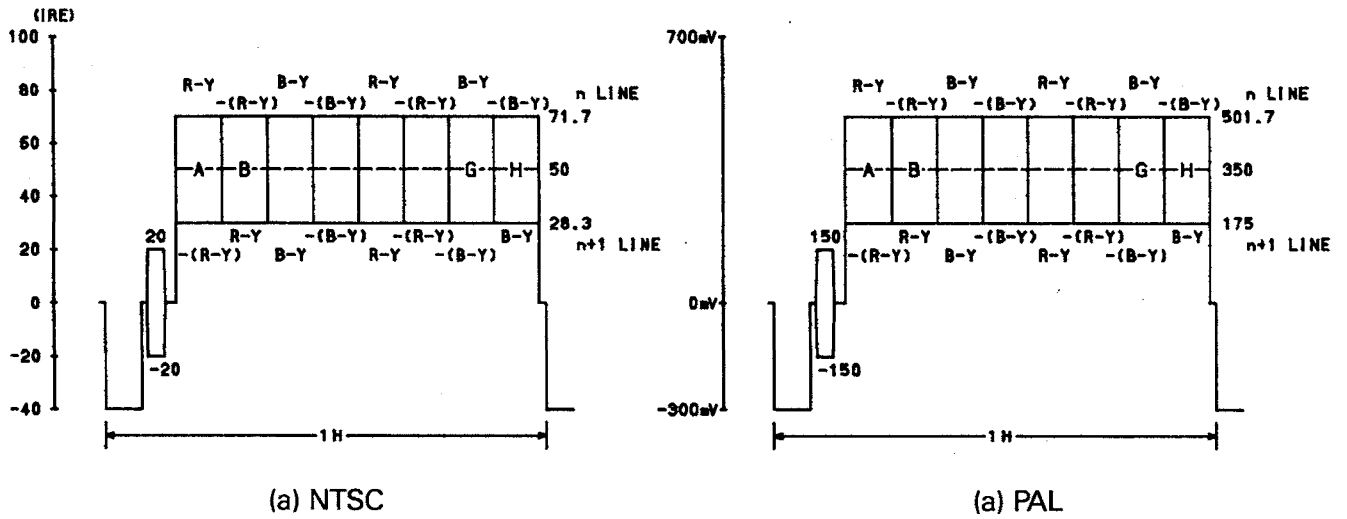

Figure 5.13
5.4 DEM Pattern (See Figure 5.13 and 5.14)
circuit with a delay line. Figure 5.13 and 5.14 shows the waveforms.